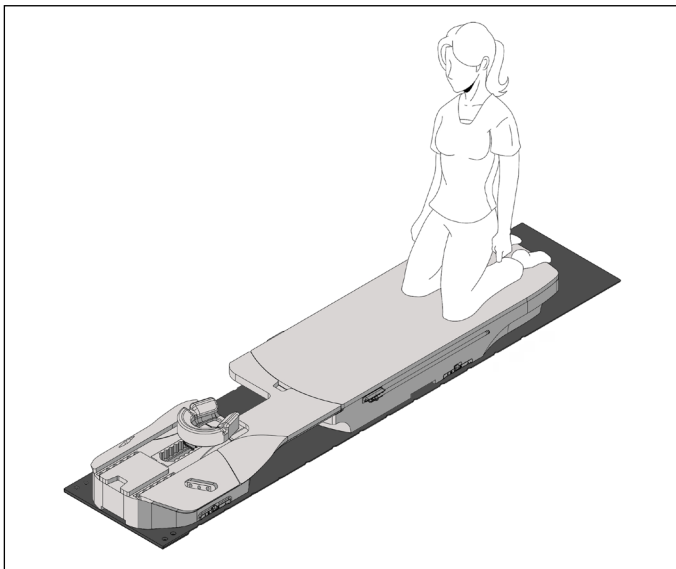

Fig. 12
2. Once the patient is on the Insert, line up their knees with the proper markings on the foam. (Fig. 12)